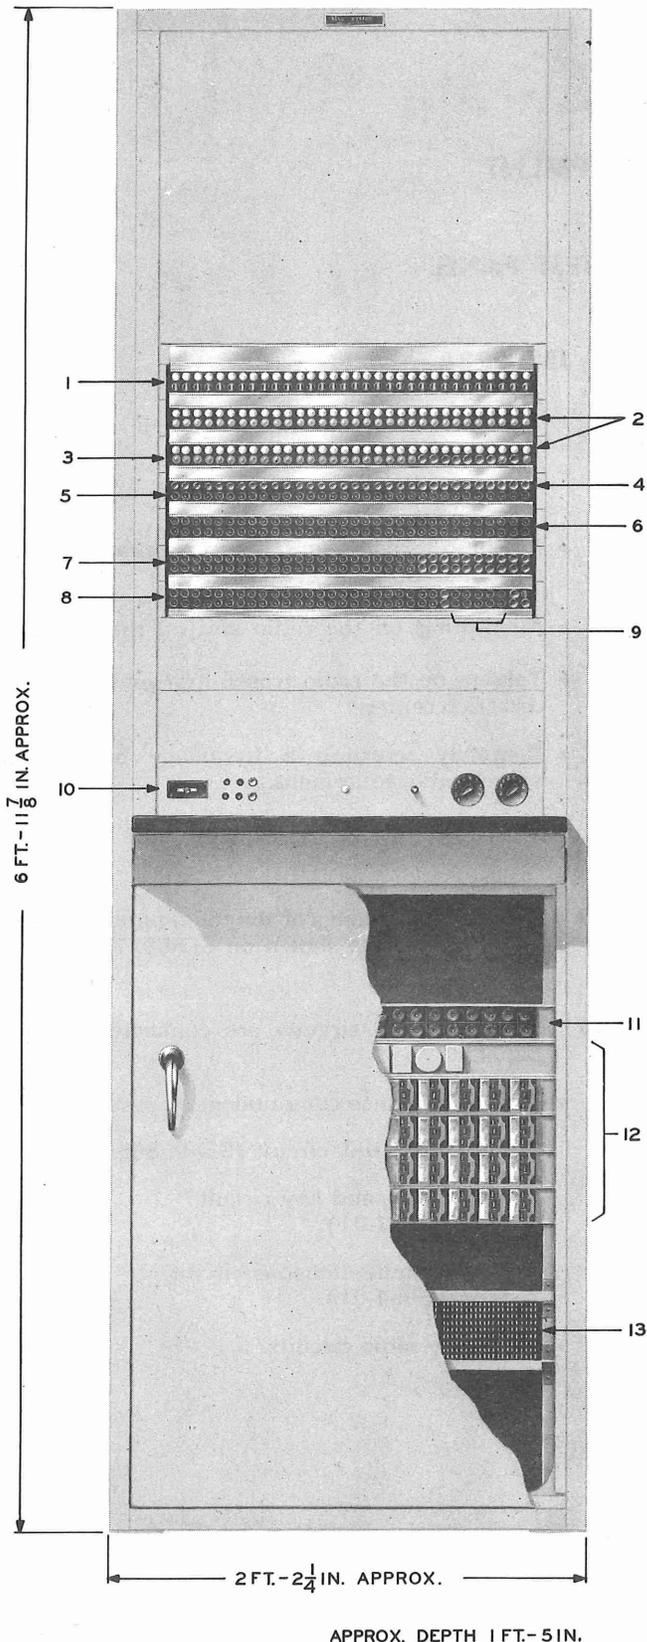

FIG. 1 — RADIO PATCH AND TEST PANEL
2.01 The radio patch and test panel is one bay of rack-mounted equipment consisting of the following items in their order of appearance on the bay from the top down (see Fig. 1):